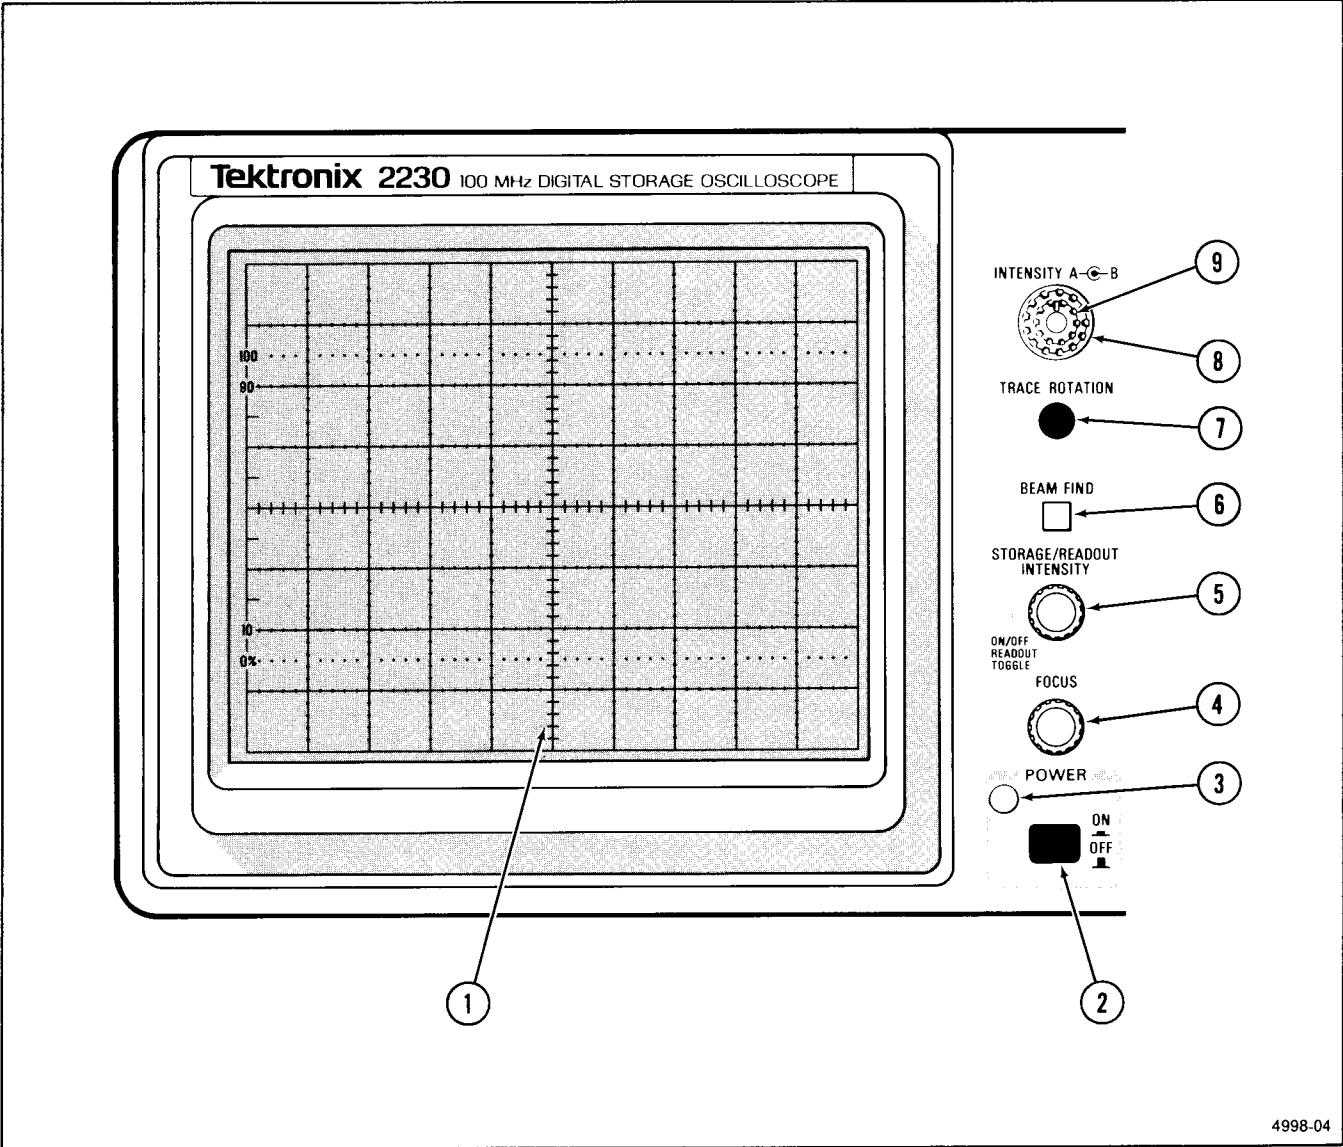

Figure 3-1. Power and display controls and power-on indicator.
Refer to Figure 3-1 for location of items 1 through 9.